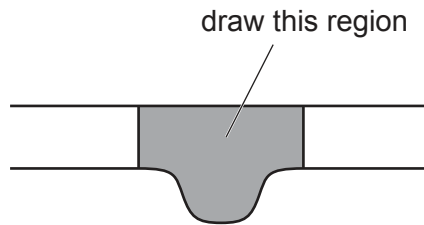

Fig. 2.1
- (a) (i)** Draw a large plan diagram of the region of the leaf on **J1** indicated by the shaded area in Fig. 2.1.